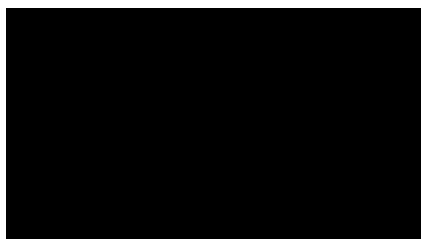

Fig.3.1
(1) Configuring background through the setting page, there are 8 options according to the different themes: when dark theme is shown in Fig.3.1~Fig.3.4, and light theme is shown in Fig.3.5~3.8. Only select the themes, it is default to display the pure colour background as shown as Fig.3.1 or Fig.3.5.
(2) Inserting new background through the USB storage device, specific steps are as follows: